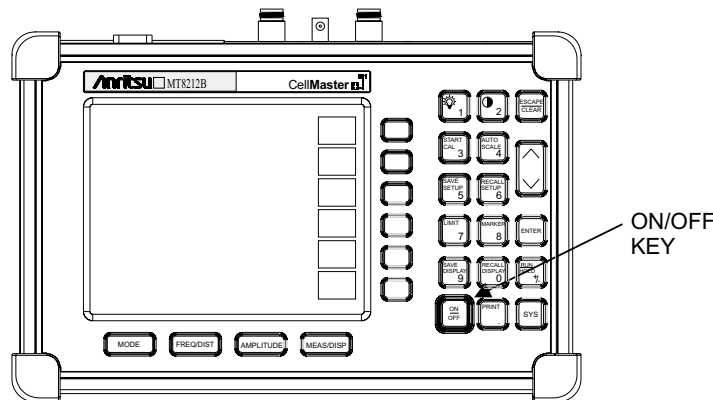

Figure 3-1. Cell Master On/Off Key
Step 1. Press the **ON/OFF** front panel key (Figure 3-1).